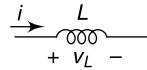

Fig. 14.18
14.29 The value of the inductance shown in Fig. 14.18 is 10 mH. Determine (i) v_L at $t = 10$ ms if $i = 20te^{-50t}$, (ii) i at $t = 0.2$ s if $v_L = 10e^{-15t}$ and $i(0) = 15$ A, and (iii) power delivered to the inductor at $t = 20$ ms if $i = 10(1 - e^{-20t})$.